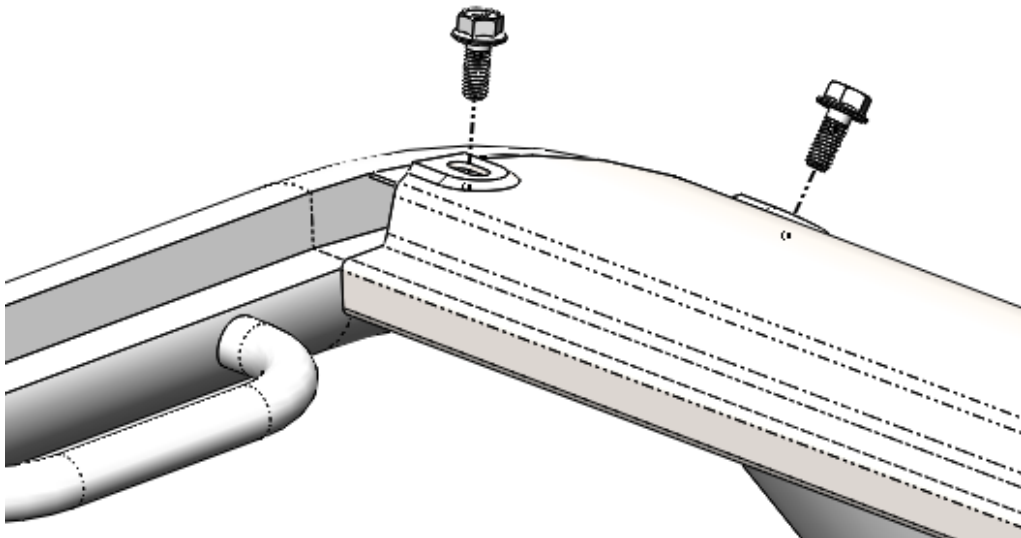

Figure 3: Remove the factory front visor bolts.
2. Remove the factory bolts from the front visor as indicated in Figure 3. The bolts will be replaced. Note: Driver side shown. (Passenger side similar)